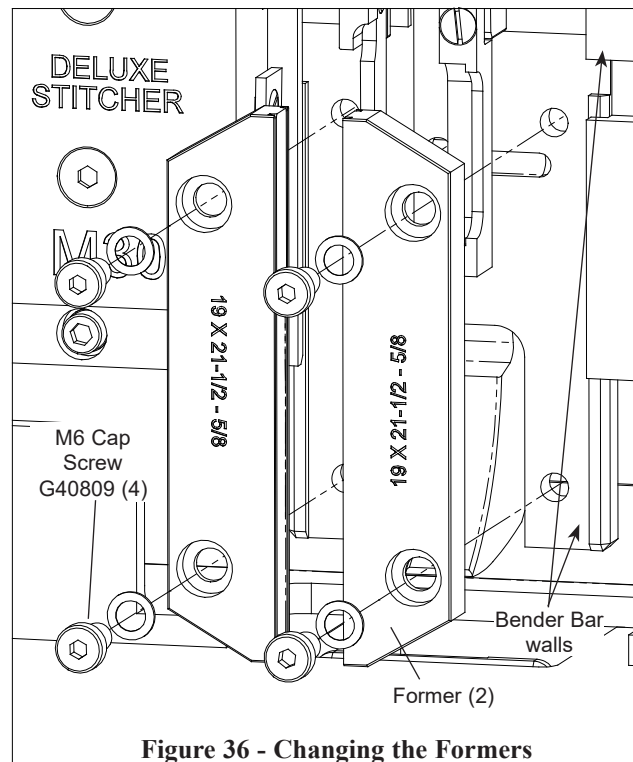

Figure 36 - Changing the Formers
6. Replace with new Formers by pushing them up and to the side against the walls of the Bender Bar as pointed out in Fig. 36. Reattach with Formers and Driver with aforesaid screws and washers, keeping the Driver just short of fully tightened..